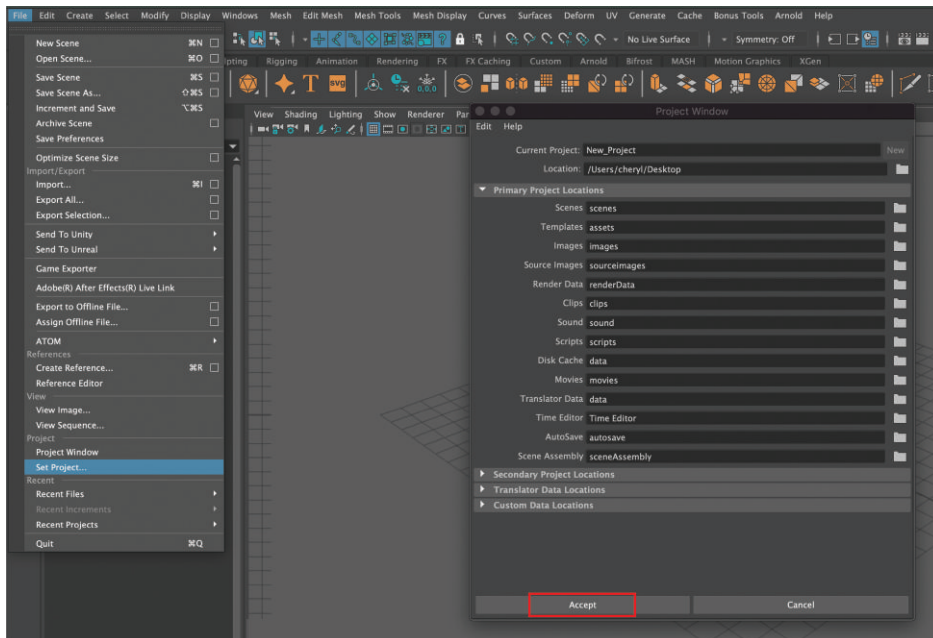

FIGURE 0.5 The Project Window.
1. Once Maya is open, go to **[File > Project Window]**, the New Project window opens. (Figure 0.5)